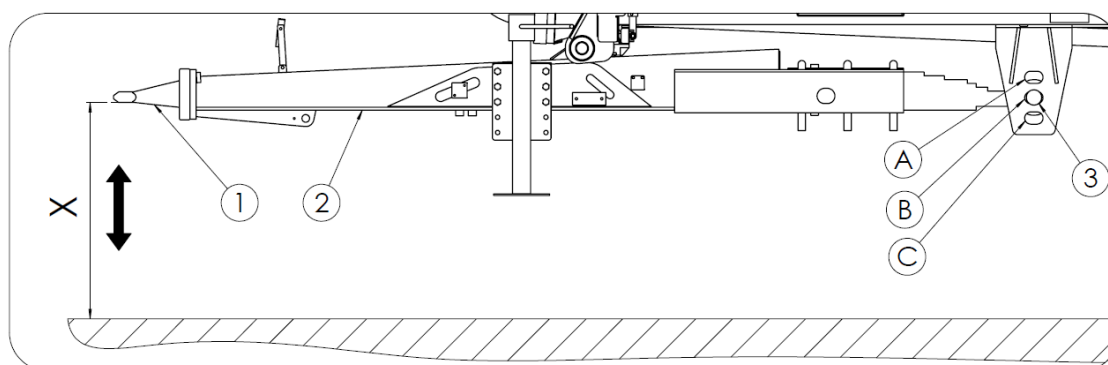

Fig. 19. Position of the drawbar in relation to the ground
The pre-assembled Spreader is designed to be coupled only with the lower hitch of the tractor. The hitch (2) features the function of changing the height of the drawbar eye (1) in relation to the ground – see Figure 19. This is done by changing the position of the suspension spring's pin (3) from the fixing hole (B) to (A) or (C). The drawbar is set at the right height by levelling the spreader, which ensures an even distribution of the spreader's weight on the axle. After coupling the spreader, make sure that it is properly levelled, both with and without load. If necessary, change the position of the suspension spring's pin to the fixing hole (A) or (C), respectively.